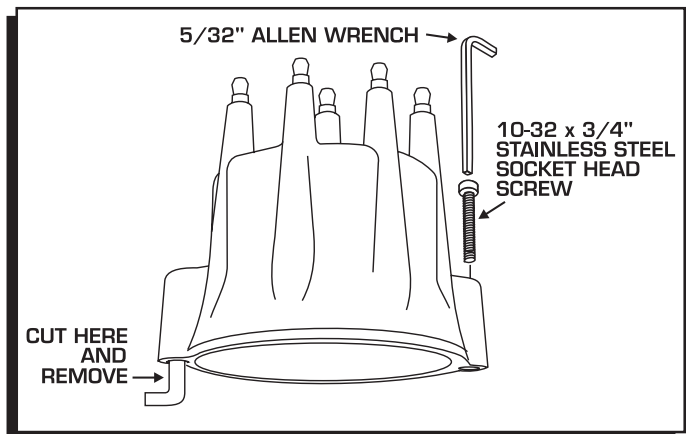

Figure 10 Optional Installation by Bolting Cap Down.
**Installation Option:** This Cap can also be bolted down to an MSD Pro-Billet or Billet Distributor base with the supplied hardware. To accomplish this, the spring clips must be cut off (Figure 10).